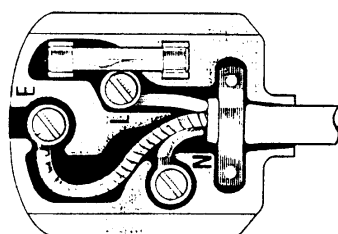

Fig. 11
37. Figure 11 shows the wires to a fused 13 amp plug when the top is removed. State below the colour of sheathing to each wire.